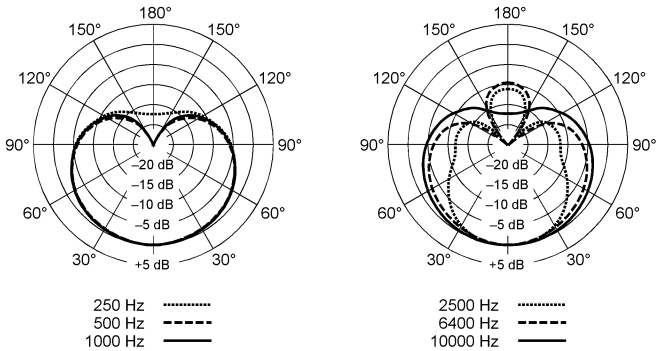

FIGURE 5. TYPICAL POLAR PATTERNS
**Cardioid.** Picks up sounds directly in front of the microphone and is least sensitive to those in back. Cardioid is the most commonly used polar pattern in studio recording and live-sound applications. See Figure 5.
Directional Polar Pattern	Cardioid (see Figure 5)